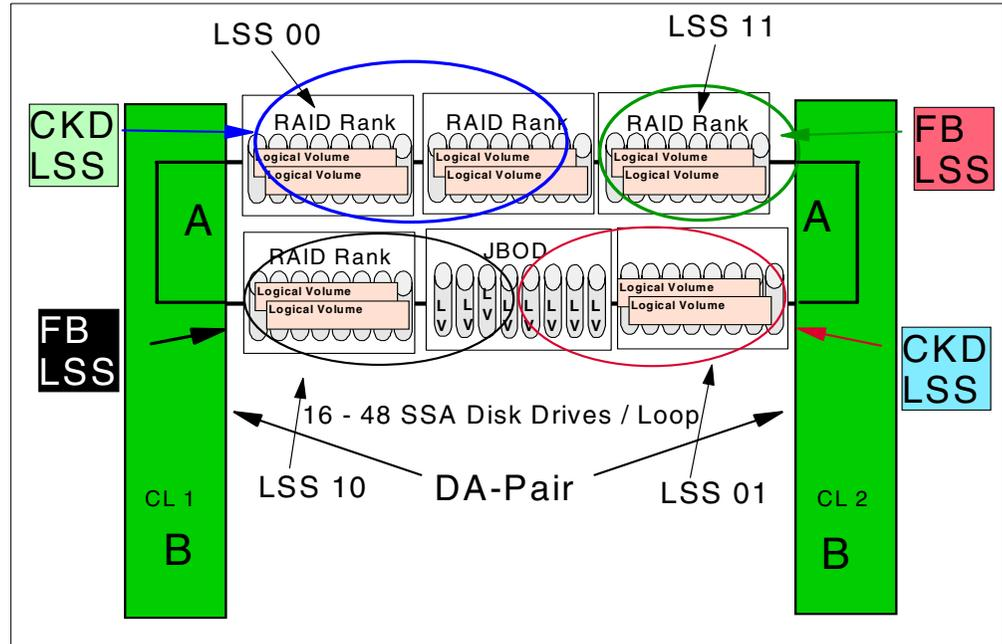

Figure 82. LSS ranks assignment
In the example in Figure 82, you can see how a final logical configuration of a loop may look. In this case, LOOP A has the maximum possible (48) drives installed. The loop has been configured with five RAID-5 ranks and eight JBOD ranks (Note: probably you will not be using JBOD ranks, but it is considered here for didactic purposes). A single DA pair loop can have up to four LSSs assigned to it, two CKD LSSs and two FB LSSs. Lets discuss this in more detail. Assuming that this example shows the first DA pair, then the LSSs defined are: